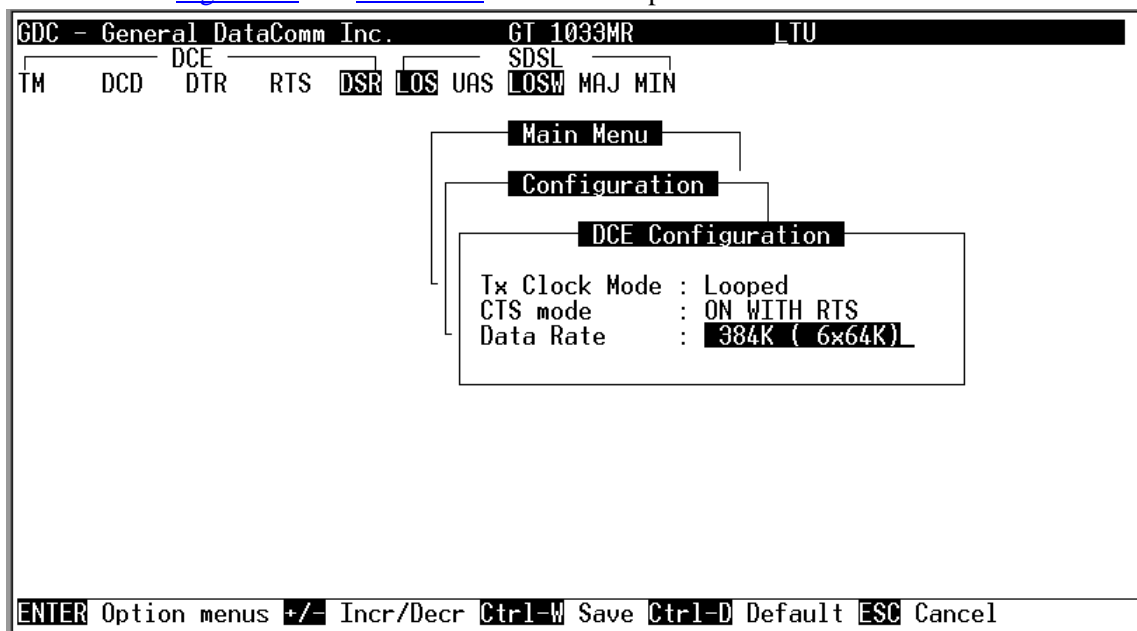

Figure 3-9 Interface Configuration Screen
The Interface Configuration option displays the DCE Configuration parameters of the unit. To display the interface configuration screen, select item 2 on the configuration menu. A typical screen is shown in Figure 3-9 and Table 3-10 outlines the options..